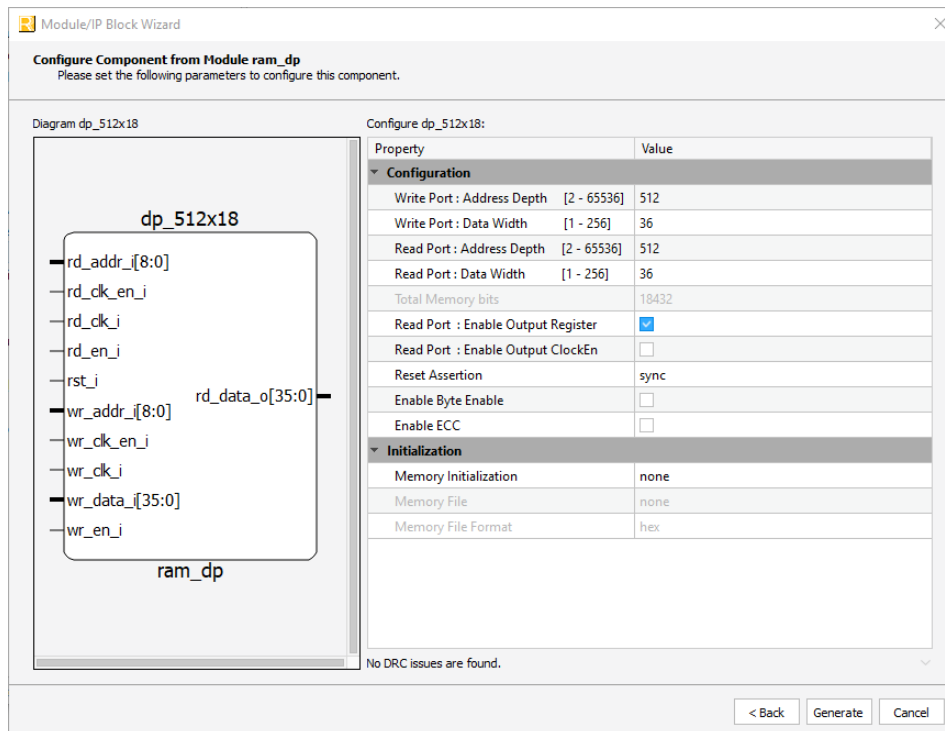

Figure 3.3. Example: Generating Pseudo Dual Port RAM (RAM_DP) Module Customization
- In the **IP Configuration** page, customize the Dual Port RAM by selecting options as shown in Figure 3.3.